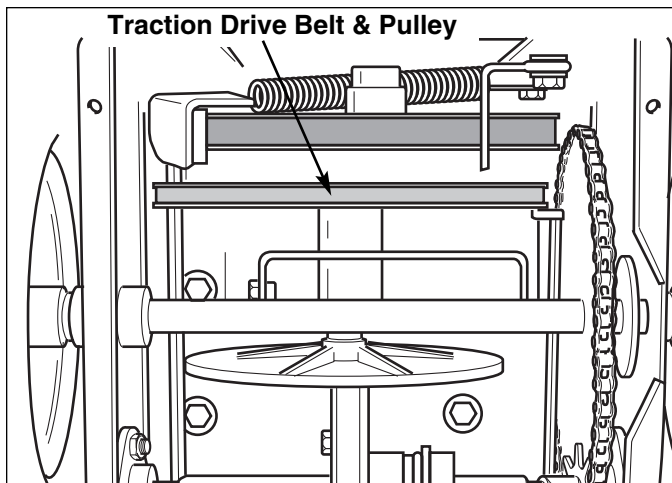

Figure 27. Traction Drive Pulley (Lower Cover Removed For Clarity)
4. Slip the belt off from around the traction pulley (See Figure 27) and pull the belt out of the unit between the auger pulley and the traction pulley (the lower cover need not be removed for this step).